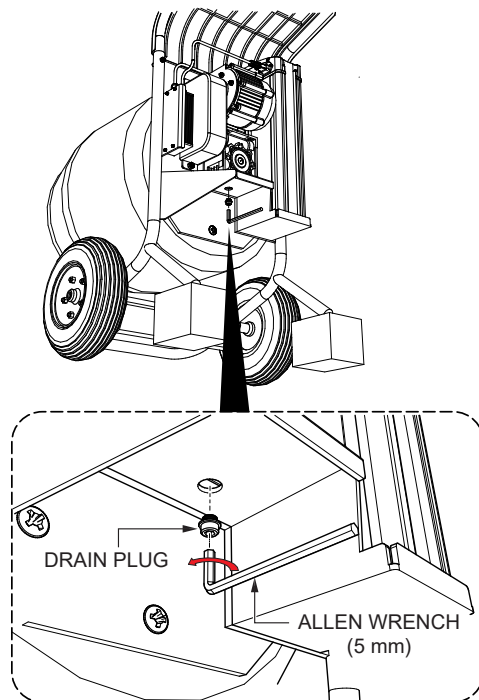

Figure 32. Removing Oil Drain Plug
4. Using a 5 mm allen-wrench, remove *oil drain plug* at the bottom of gearbox as shown in Figure 32.